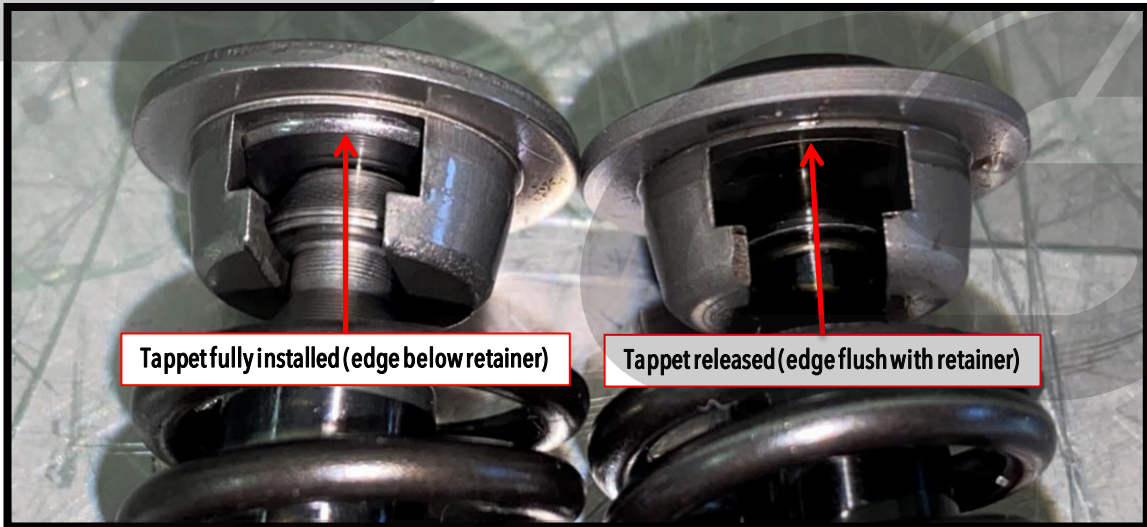
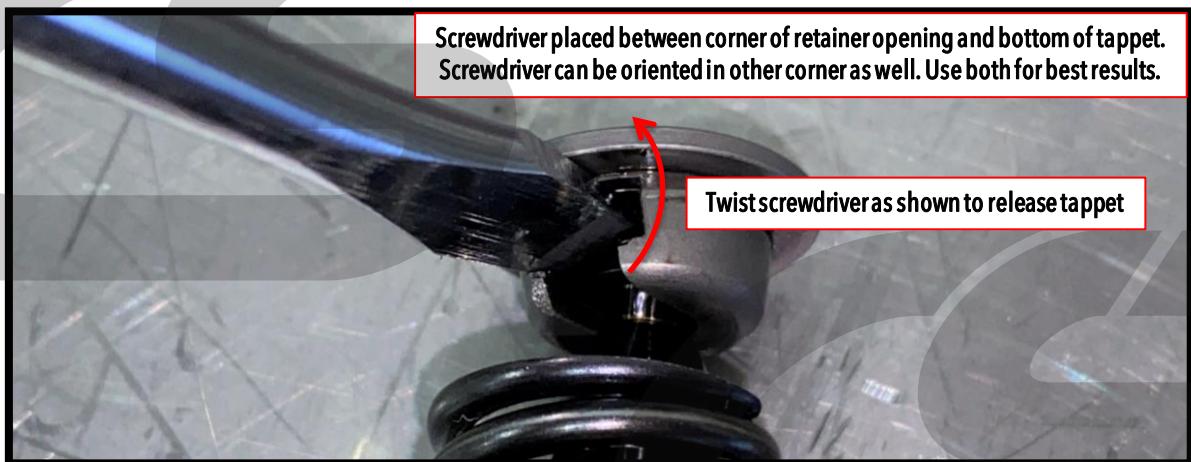

Figure 6d
Figure 6e
- d) **CorkSport HPFP Internals** : Next you will need to use a flathead screwdriver to carefully pry the tappet upwards on the end of the CS HPFP piston. **Figure 6d** shows a tappet fully installed (left) vs. released (right). **Figure 6e** shows where to pry to release your tappet.